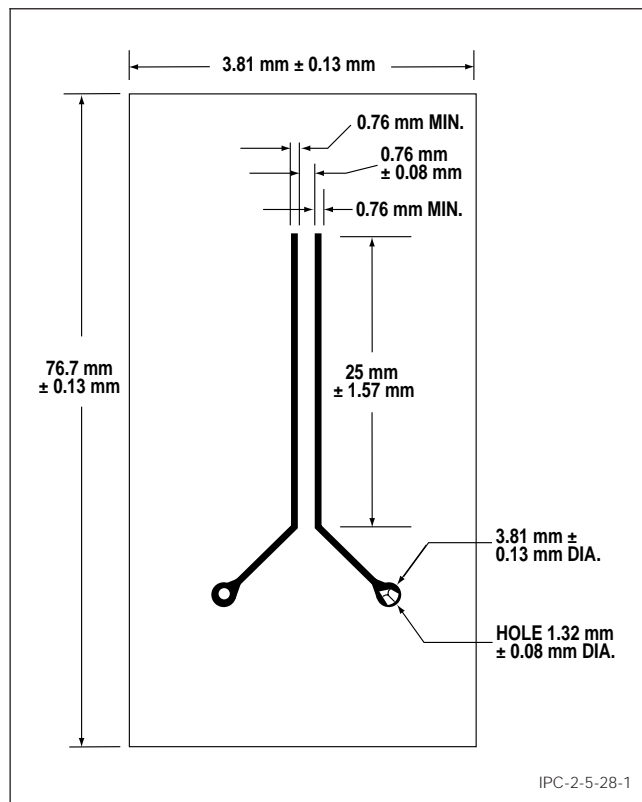

Figure 1 Q Resonance Test Pattern
3.1 The test specimen shall consist of an etched conductor pattern in accordance with Figure 1. A minimum of three specimens shall be prepared for each frequency being tested.
5.1.1 Prepare the test patterns according to Figure 1 using good commercial practices or IPC-TM-650, Method 2.3.7.2.